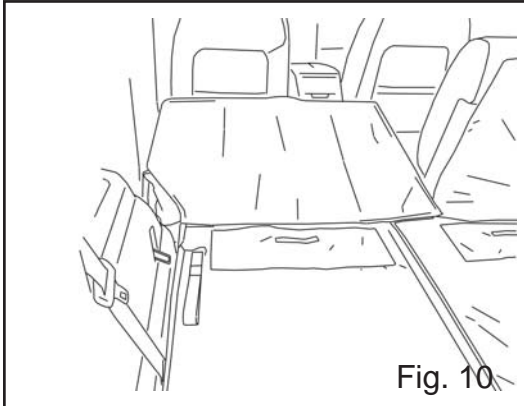

Fig. 10
- 8 If 3rd row seats are to be folded down, extend cover and align with 2nd row seats. (Fig. 10)